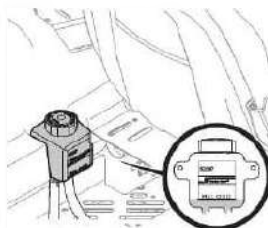

Figure 4-9
- Pivot the operator's seat forward and clean the reservoir cap and the area around the cap to prevent debris from contaminating the transmission oil. See Figure 4-9.
- Turn the reservoir cap counter-clockwise to remove, then check the oil level in the reservoir. Oil should be visible at the bottom of the cup, but the oil level must NOT be above the "FULL COLD" line. See Figure 4-9. DO NOT FILL THE RESERVOIR.